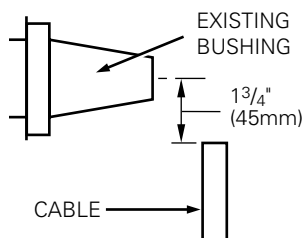

Figure 2. Line illustration for cable training
- Cut cable 1 3/4 inches (45 mm) from centerline of bushing. (Refer to Figure 2.)